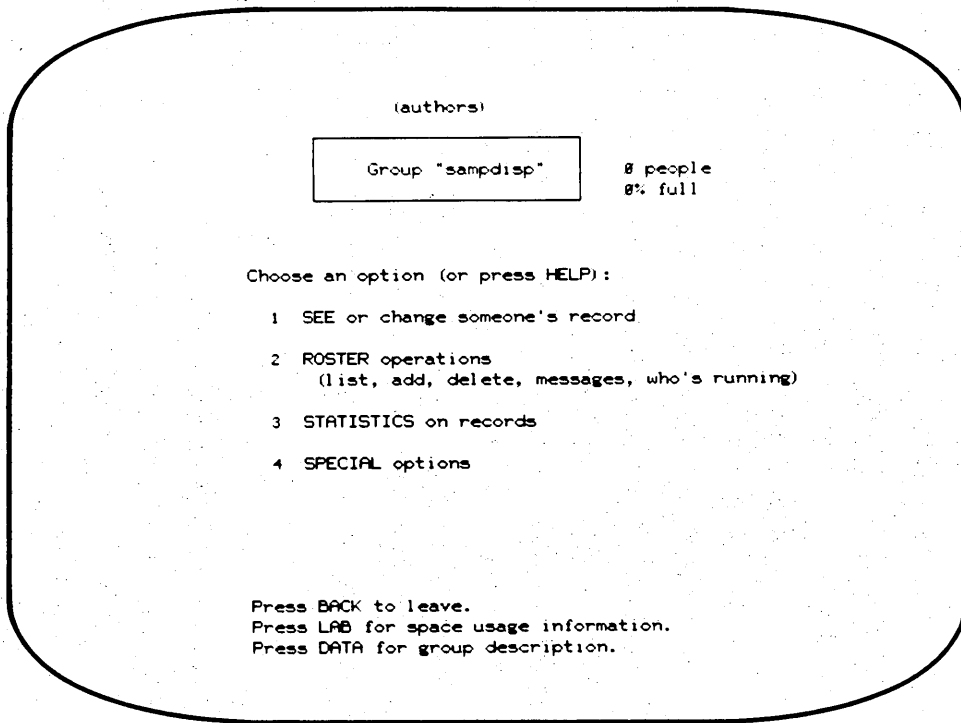

Figure 5-1. Group Operations Display
1. Press NEXT to edit your PLATO group. System displays another set of options for group operations (figure 5-1).